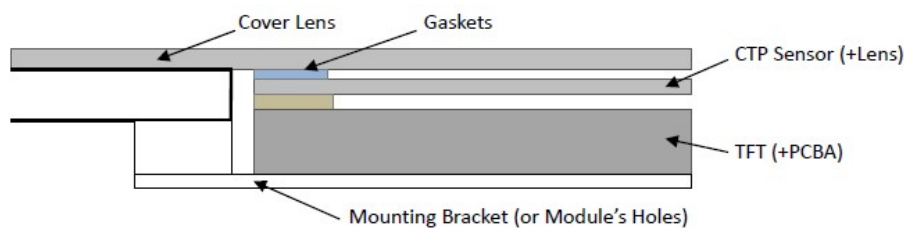

Figure 3
8.3 Additional Cover Lens Mounting (Figure 3)
8.3 覆加盖板 (附图 3)